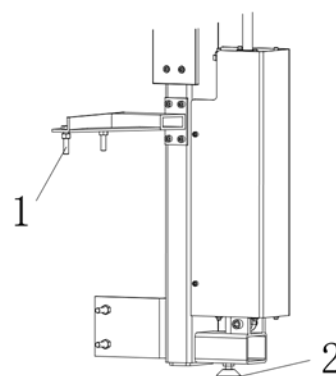

Fig 10
- 2) Fix the column on the body with four screws (1, Fig 10) and adjust the support (2, Fig 10) to a suitable location.